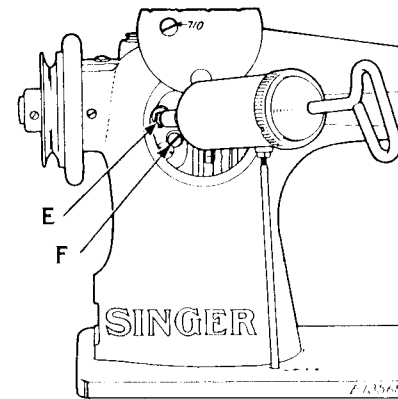

Fig. 4
Replenish the gear cases at (E) and (H), Figs. 4 and 5 with Singer Gear Lubricant every 160 hours of operation.
To supply grease to the upper gear case (Fig. 4), have the machine in its normal working position, remove
the level hole screw (F, Fig. 4) and force the lubricant into the Alemite fitting (E, Fig. 4) until it emerges from the level hole at (F), then replace the screw (F).